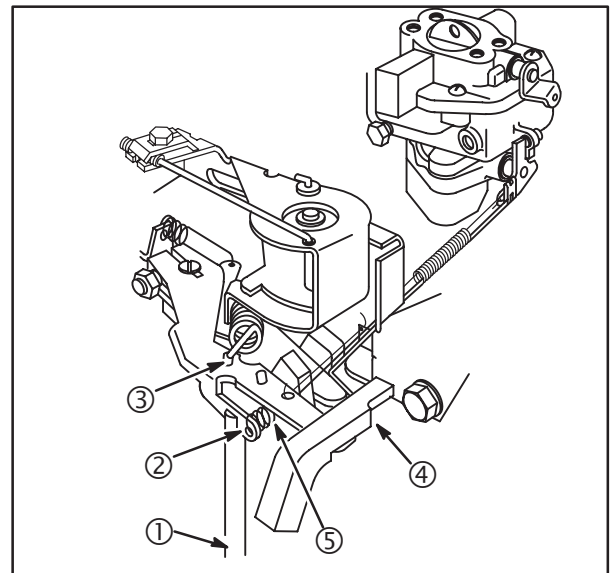

Fig. 42
Some Vanguard™ OHV V-Twin engines with remote speed control are equipped with a secondary governor spring (5). The primary governor spring is installed in #1 hole (3) on governor lever, **Fig. 42**.
2. Install Adjustment Gauge #19385 (4), with notch over end of governor lever and flat end of tool against governor control bracket as shown in **Fig. 42**.
3. Hold gauge in position and bend tab (2) with Tang Bender #19532 (1), so that all slack is removed from secondary governor spring (5) between its two anchor points, **Fig. 42**. **DO NOT STRETCH SPRING**.